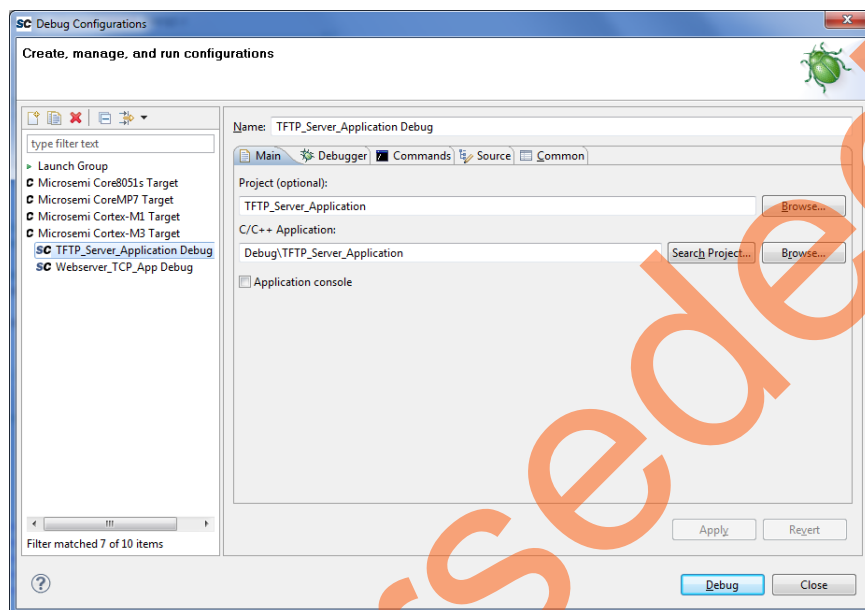

Figure 35 • Debug Configurations for TFTP_Server_Application
2. To debug TFTP_Server_Application project, select **TFTP_Server_Application Debug** as shown in Figure 35.